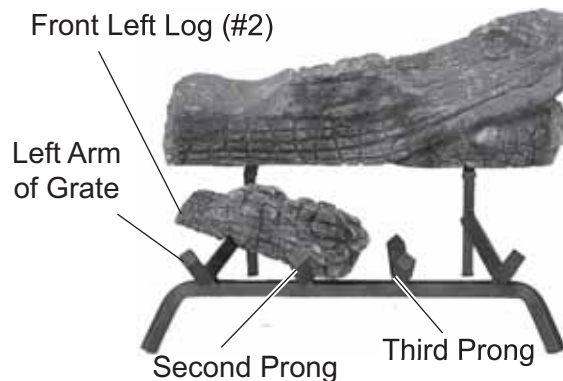

Figure 70 - Placing Front Left Log (#2) on Left Arm of Grate
3. Place Front Left Log #2 in front of back log on left arm of grate. Rest end of bottom left log between second and third prong of grate. *See Figure 70.*